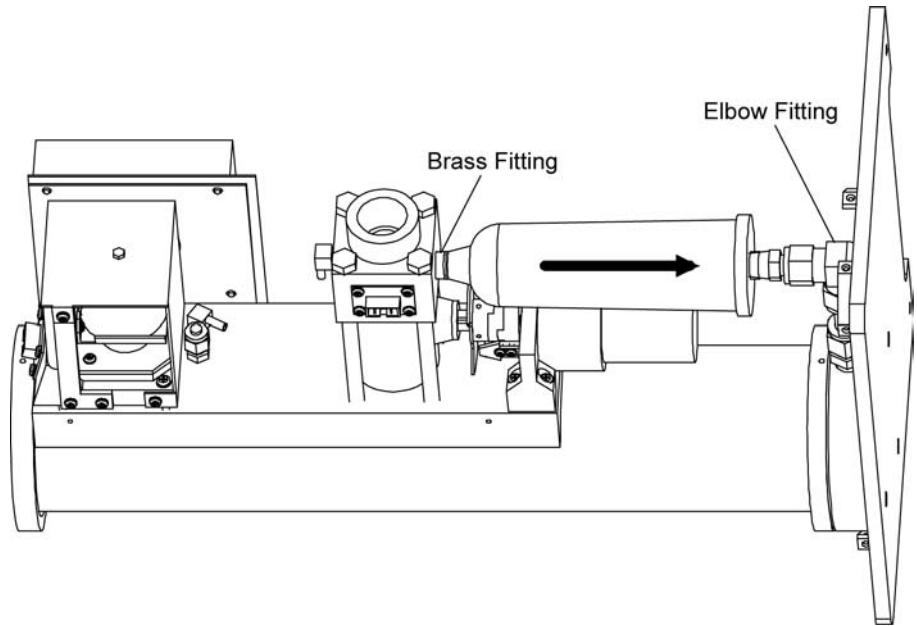

Figure 8-11
- c.** Use an adjustable wrench to remove the nylon nut connecting the elbow fitting to the filter outlet (Figure 8-11).
- e.** Unscrew the filter from the brass fitting on the inlet block (Figure 8-11).
- g.** Making sure the arrow on the new filter is pointing away from the inlet block, screw the new filter into the brass fitting on the inlet block (Figure 8-11).